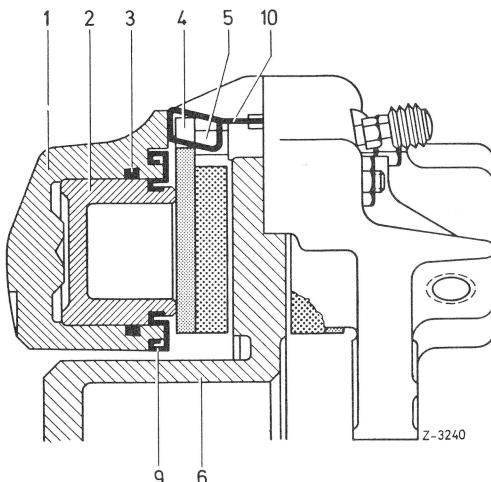

Fig. 8
6 Remove piston seal (3) from grooves of cylinder bores (Fig. 8 and 9).